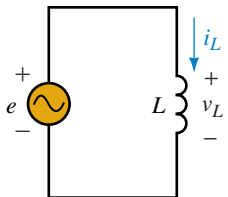

FIGURE 16-53
21. For Figure 16-53, $V_m = 10$ V and $I_m = 5$ A. For each of the following, determine the missing quantity:
23. For Figure 16-53, $e = 100 \sin \omega t$ and $L = 0.5$ H. Determine i_L at
24. For Figure 16-53, let $L = 200$ mH.
39. **PSpice** Create the circuit of Figure 16-53 on the screen. Use a source of $100 \text{ V} \angle 0^\circ$, $L = 0.2 \text{ H}$, and $f = 50 \text{ Hz}$. Solve for current \mathbf{I}_L (magnitude and angle). See note below.